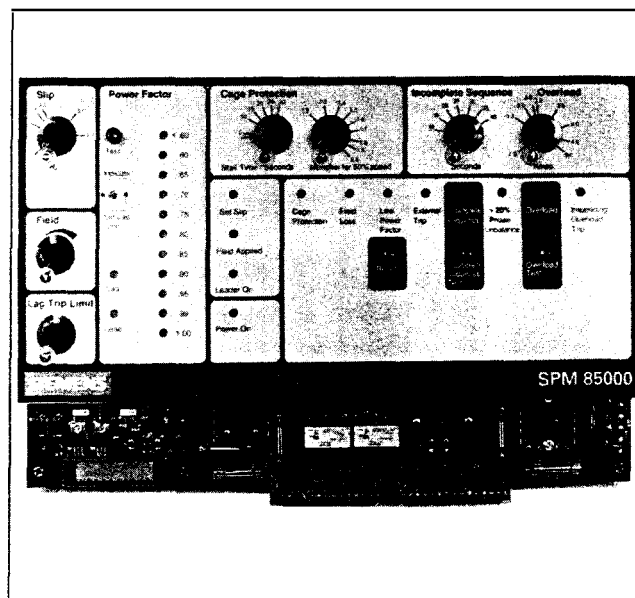

Figure 15. Control and Protection Module (C/P-M)
B. Control and Protection Module (see **Figure 15**)
Jumper not removed	Reduce motor load or correct conditions causing overload. Check OVERLOAD ADJUSTMENT setting and correct if required. Remove the jumper (J2) located on the C/P-M circuit board behind the lag trip limit adjustment. See Figure 15.